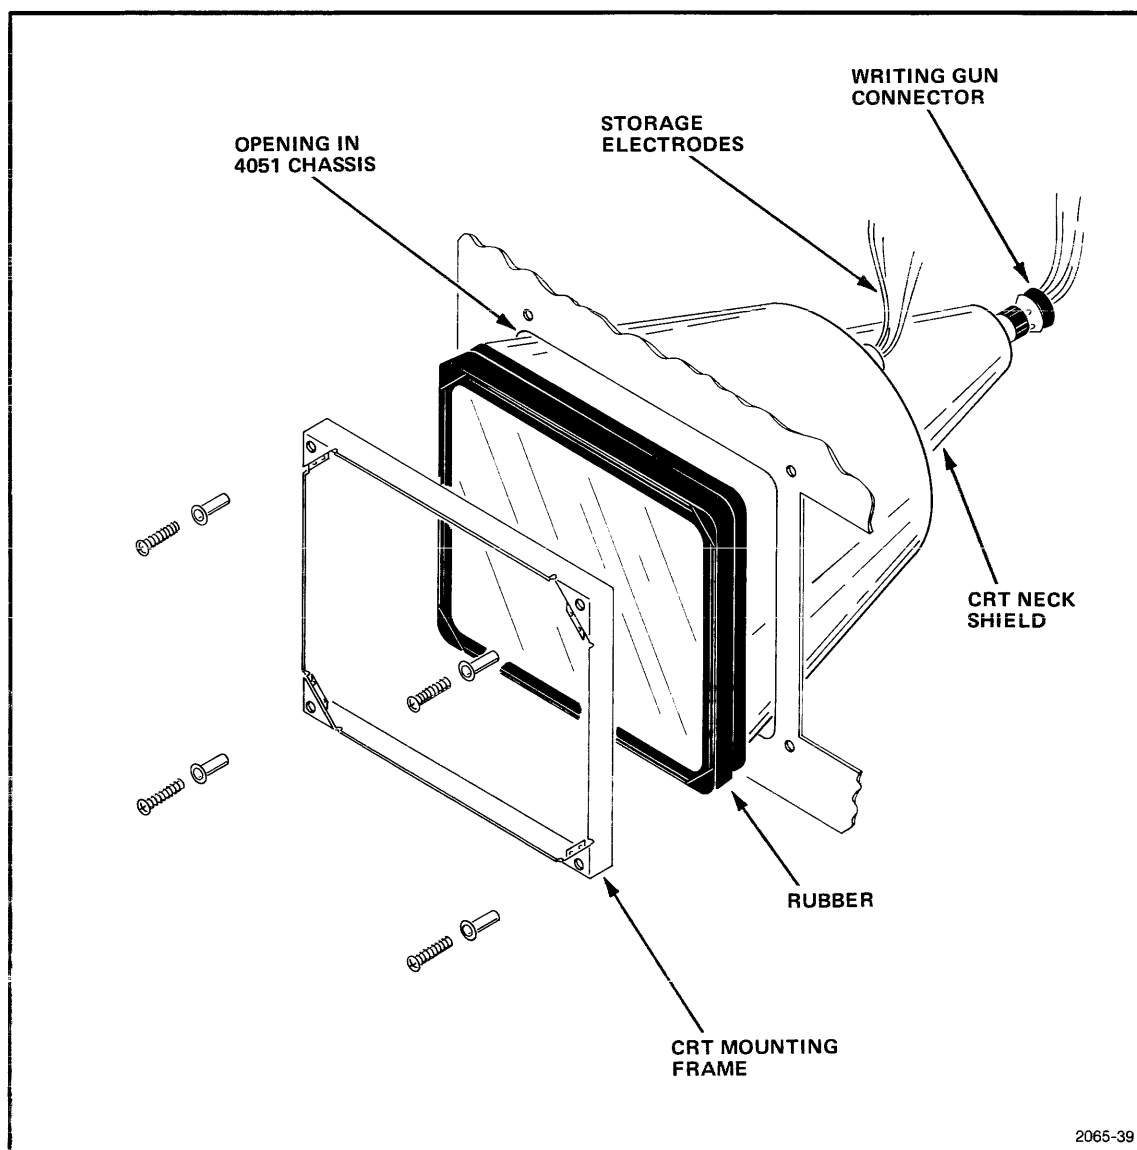

Fig. 3-21. Mounting the crt into the 4051.
8. Place the metal mounting frame around the rubber collar at the face of the crt and secure it to the chassis (Fig. 3-21). Be careful to tighten the screws evenly to avoid sideways movement of the crt's neck. The light metal pieces of the mounting frame should not be deformed by the rubber collar. The collar may have to be manipulated slightly during assembly to ensure proper seating of the mounting frame.